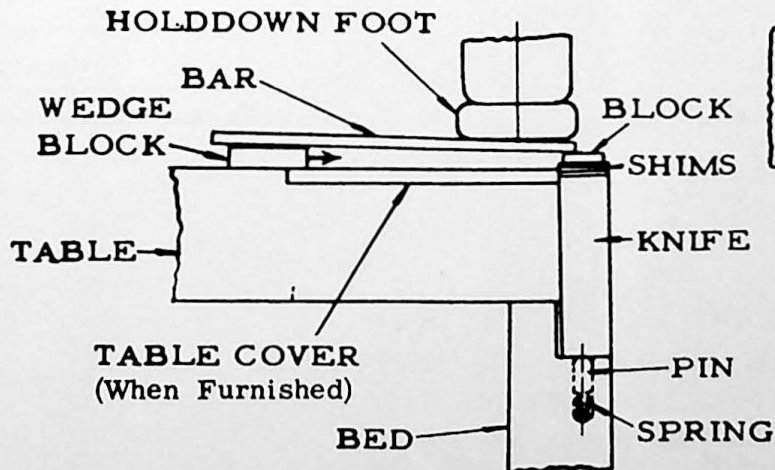
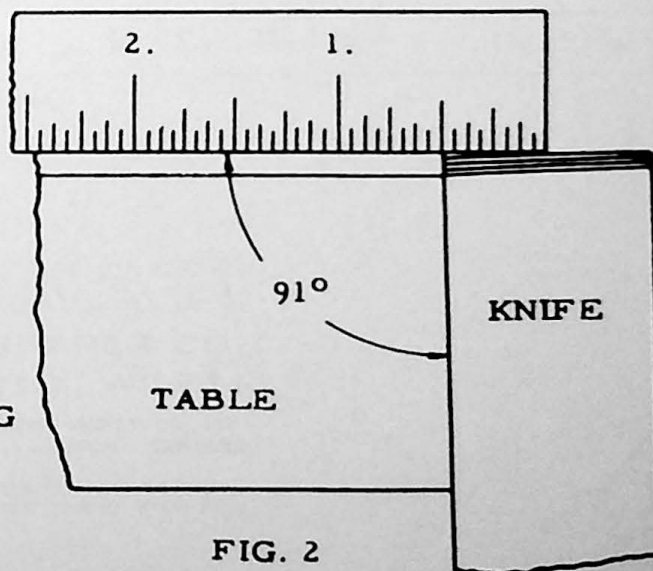

FIG. 1
FIG. 2
8. Compress the shims as shown in Fig. 1 by moving wedge block toward knife and check with a scale as shown in Fig. 2. The scale should hit at about the center of the knife.
15. Make a final check as shown in Fig. 2. Shims can be changed without removing the knife by loosening the bolts and raising the knife as outlined above.